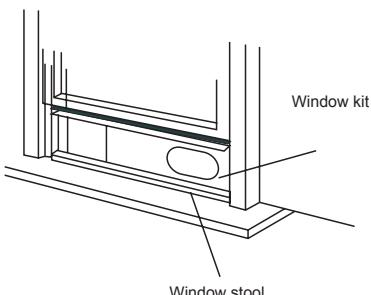

Fig. 10
3. Cut the foam seal (adhesive type) to the proper length and attach it on the top of the window. Shown as in Fig.10.